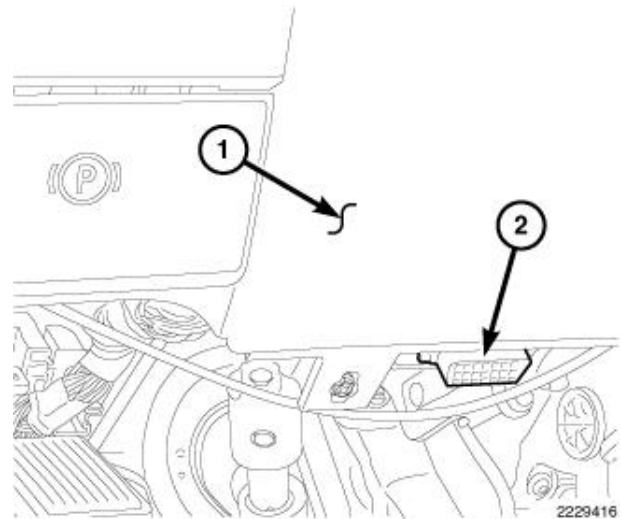

Figure 16 – DLC
25. Be certain that the diagnostic scan tool contains the latest version of the proper diagnostic software. Connect the scan tool to the 16-way Data Link Connector (DLC) (2). The DLC is located on the driver side lower edge of the instrument panel, near the steering column opening cover (1) and outboard of the steering column (Figure 16).